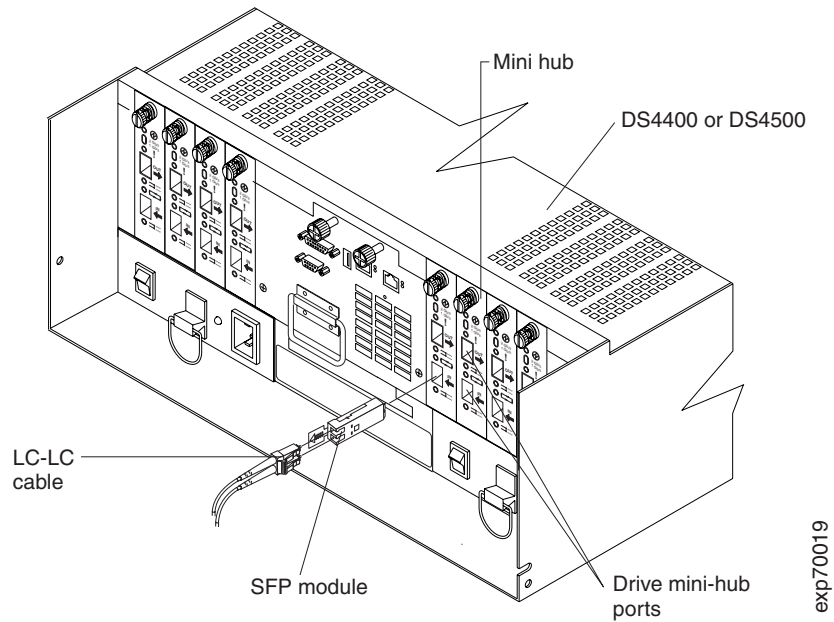

Figure 49. Installing an SFP module and LC-LC cable in a DS4400 or DS4500
2. Connect an LC-LC fiber-optic cable into the SFP module, as shown in Figure 49 on page 61.